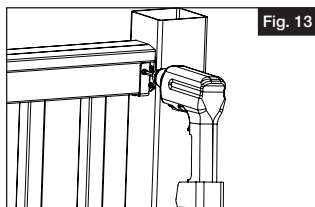

Fig. 13
- Using a  $\frac{1}{8}$ " drill bit, predrill the top rail in the two locations on the metal bracket. Install #10 x1" screws in pre drilled holes of each of the metal brackets (Fig 13).